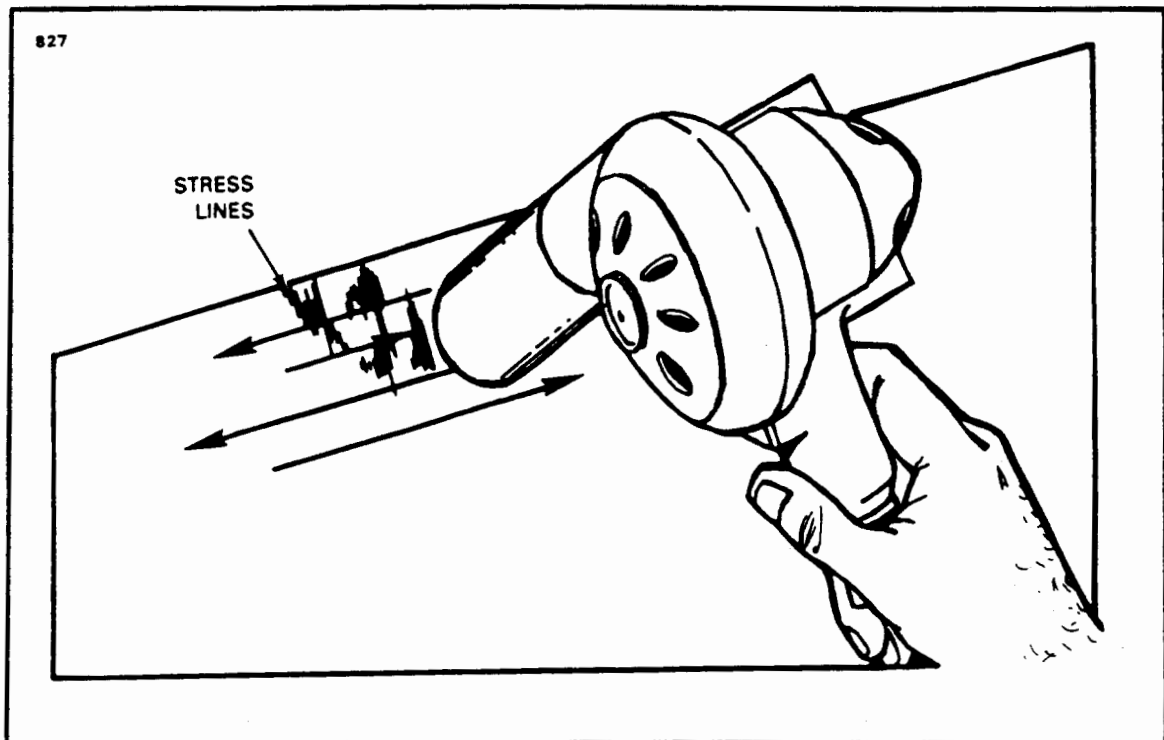
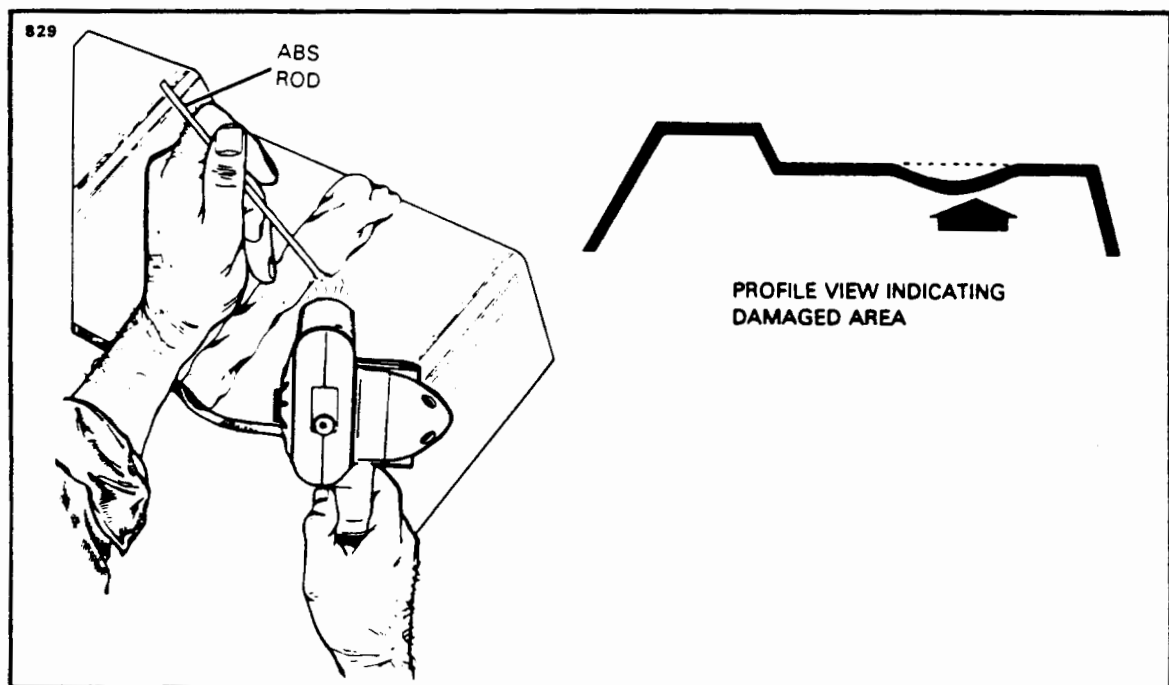
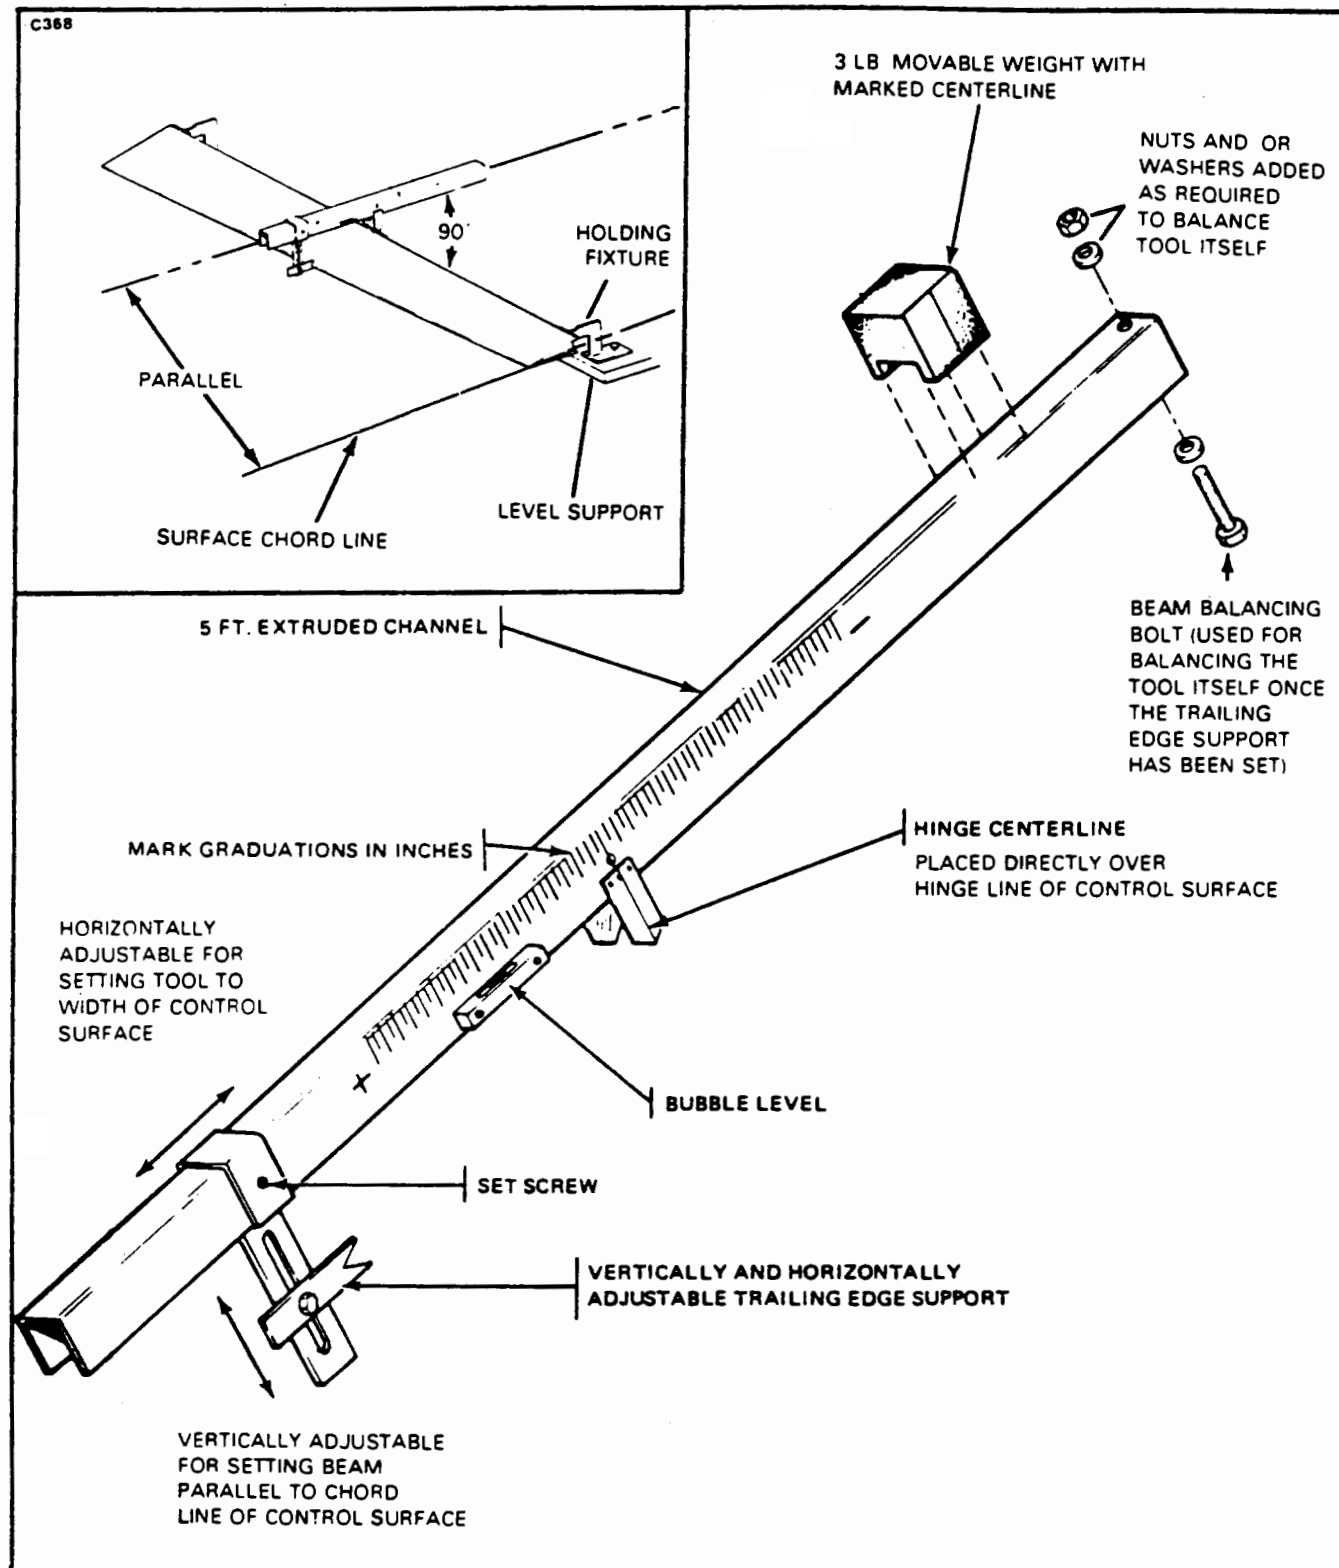

Figure 4-17. Repair of Stress Lines
Figure.4-18. Repair of Impacted Damage
Figure 4-19. Control Surface Balance Tool
- f. Stress Lines: (Refer to Figure 4-17.)
1. Stress lines produce a whitened appearance in a localized area and generally emanate from the severe bending or impacting of the material. (Refer to Figure 4-18.)
4-72 BALANCING EQUIPMENT (Refer to Figure 4-19). The balancing must be done using a suitable tool capable of measuring unbalance in inch-pounds from the centerline of the control surface hinge pin. A suggested tool configuration is shown in Figure 4-17. Other tool configurations may be used, provided accuracy is maintained and recalibration capability is provided. The tool shown in Figure 4-17 may be calibrated by placing it on the control surface to be balanced with the balance points over the control surface hinge centerline and the balance bar parallel to the cord line. Position the trailing edge support to align the tool with the control surface cord line and secure in this position. Remove the tool without disturbing the trailing edge support and balance the tool by adding weight to the light end as required. (The movable weight must be at the centerline.) Place the tool on the control surface perpendicular to the hinge centerline as shown in Figures 4-18 and 4-19. Read the scale when the bubble level has been centered by adjustment of the movable weight.